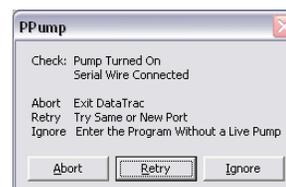

Figure 2B. Connection error box
Complete DataTrac Software features are only available when an active sample pump is connected to the PC (see Connecting the Pump to a PC). The SKC DataTrac Pump Manager window may be accessed without a pump connected to the PC; however, only limited features will be available (see Connecting the Pump to a PC, Connection Error Box, Figure 2B).
- If connection is successful, the Pocket Pump Connection window will display a shaking hands icon (Figure 2A). Proceed to Step 6. If connection is unsuccessful, an error window will display (see box and Figure 2B on page 5).
If an error box displays (Figure 2B), follow this procedure: